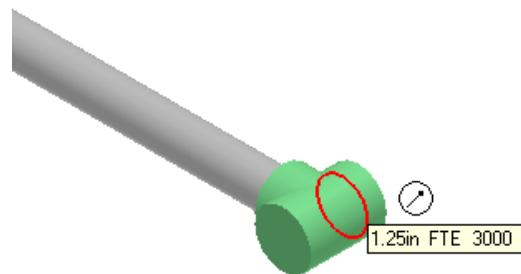

Figure 23: Placed Tee
23. Select the Tee Port to start routing the conduit, as shown in the Figure 23.